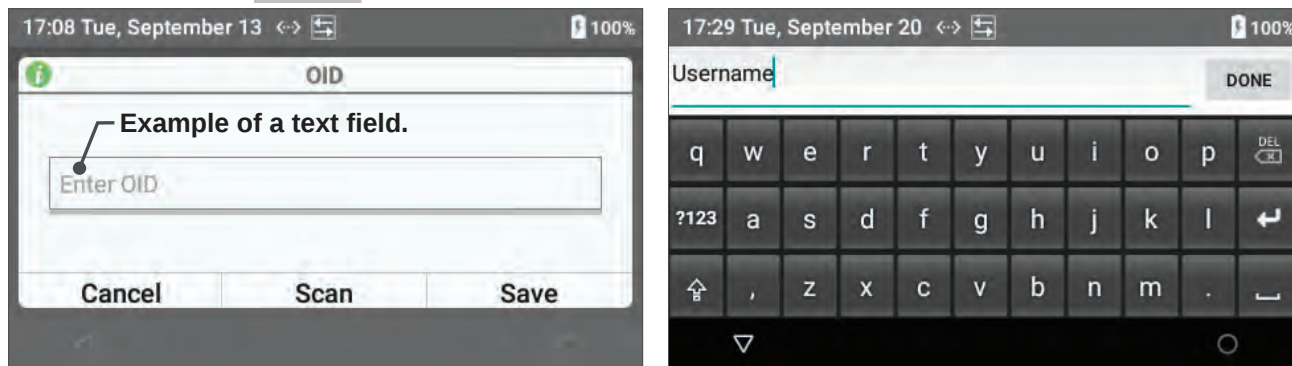

Figure 10: Display Virtual Keyboard
- To display the virtual keyboard, touch a text field (e.g., when the **Enter OID** dialog box is displayed [Figure 10], select **Enter OID**).